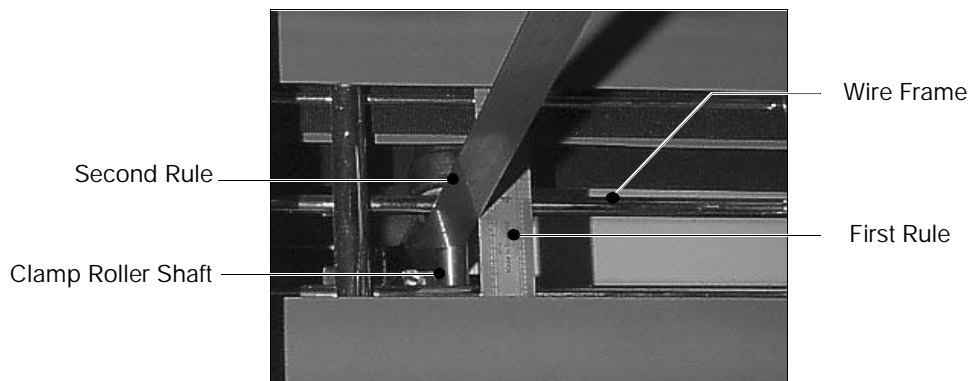

FIGURE 45
- Lay the first rule across the wire frame, so that it is above the clamp roller shaft (see Figure 45)